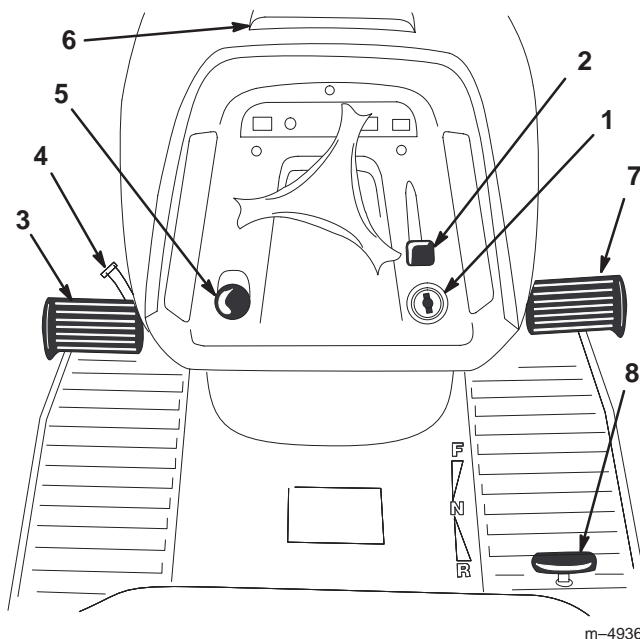

Figure 2
Become familiar with all of the controls (Fig. 2) before you start the engine and operate the machine.
1. Push the brake pedal (Fig. 2) down and hold it in the depressed position.
2. Turn the parking brake lever (Fig. 2) counterclockwise and gradually take your foot off of the brake pedal. The brake pedal should stay in the depressed (locked) position.
1. Push down on the brake pedal (Fig. 2). The parking brake lever should release.